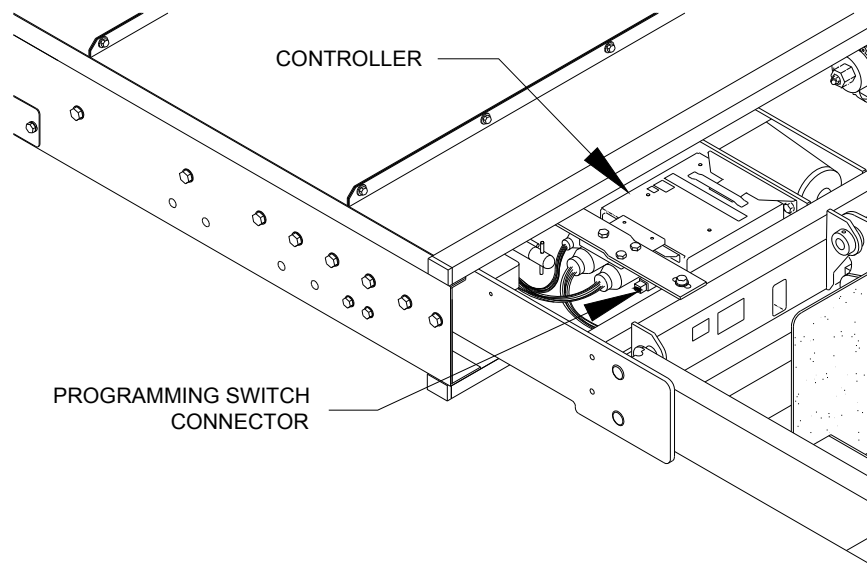

FIGURE 2-16: PROGRAMMING SWITCH CONNECTOR
- 7) Refer to **Figure 2-16**. The mating connector for the programming switch is attached to the underside of the controller bracket. The connector is protected with a removable plug. Connect programming switch to connector.